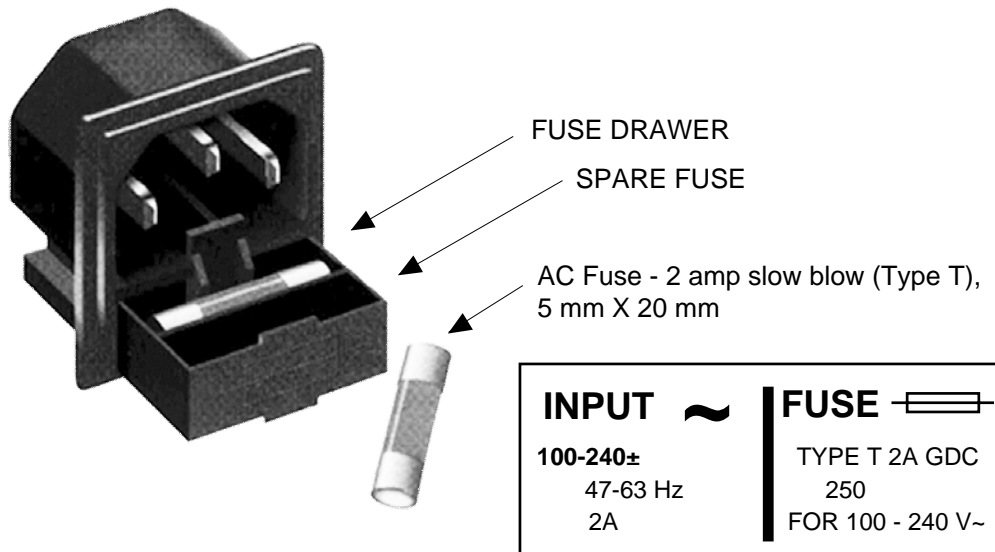

FIGURE 2.3 Fuse Location and Spare Fuse
6. AC Fuse - The fuse is a 5 mm X 20 mm, 2 amp slow blow (Type T) and is inserted in the far slot in the drawer below the AC input as shown in Figure 2.3. There is a spare fuse in the near slot.